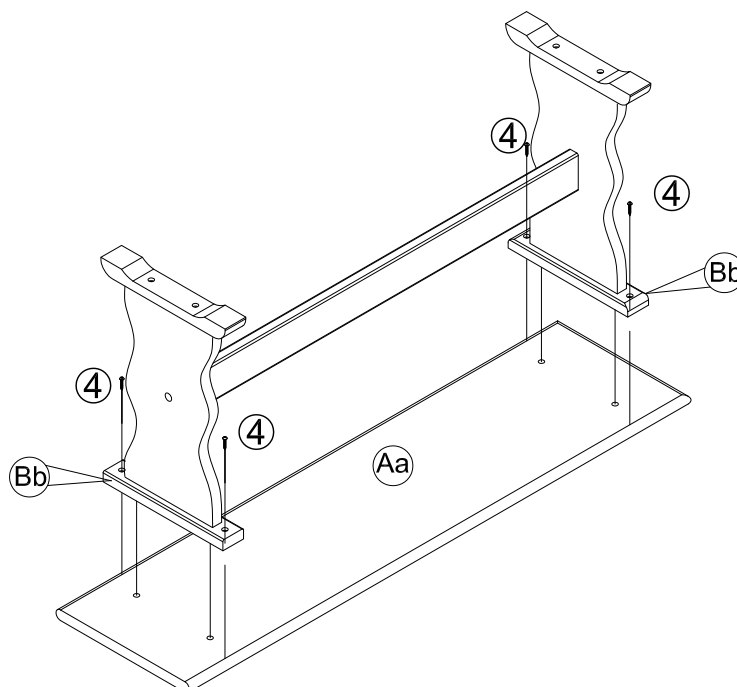

FIGURE 4
- 4.1 ATTACH ASSEMBLED LEGS TO SEAT #Aa THROUGH FITTING WOOD DOWELS PRESENT IN UPPER SIDE OF SEAT SUPPORTS #Bb INTO HOLES LOCATED UNDERNEATH OF SEAT #Aa AS SHOWN IN FIGURE 4. IT SERVES AS GUIDE ENABLING YOU TO CONNECT THE LEGS IN CORRECT POSITION.
- 4.2 USING PRE-DRILLED HOLES AS GUIDE, SECURE CONNECTION WITH (04) SCREWS ④ DRIVEN WITH PHILLIPS HEAD SCREW DRIVER (NOT ATTACHED) AS SHOWN IN FIGURE 4.